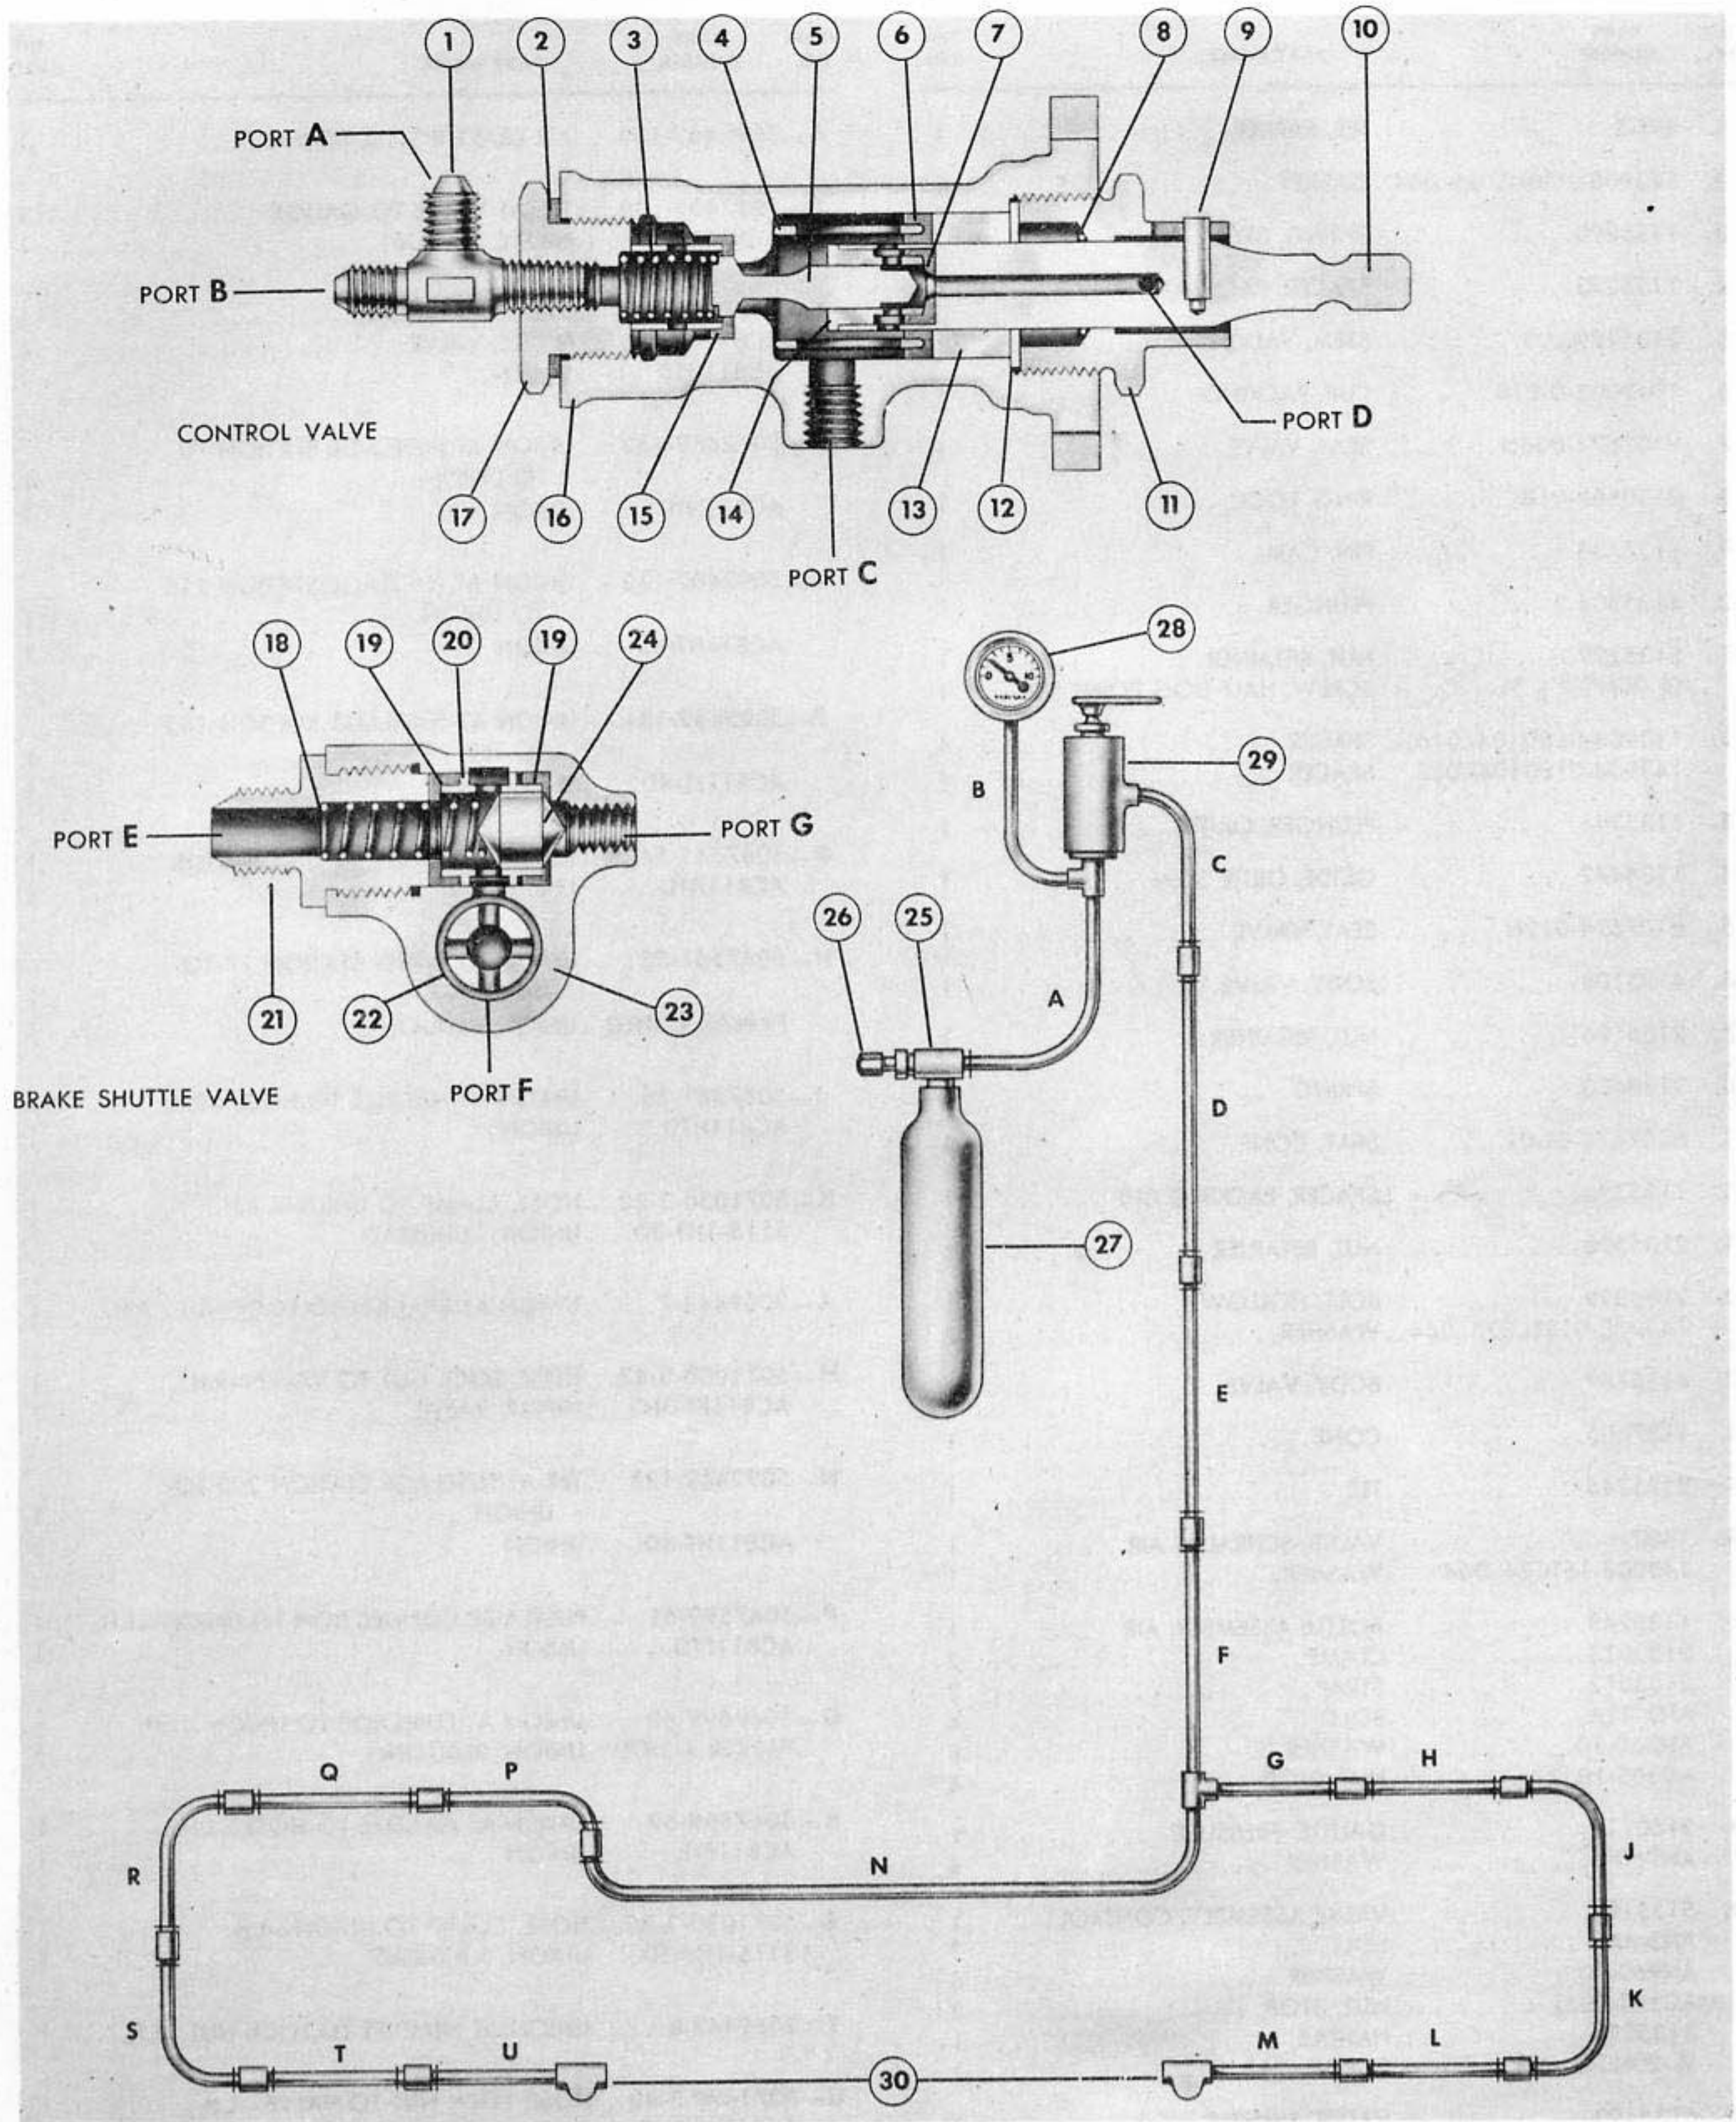

Figure 64 - EMERGENCY AIR-BRAKE SYSTEM
(9) EMERGENCY AIR BRAKE SYSTEM. (See figure 64.)